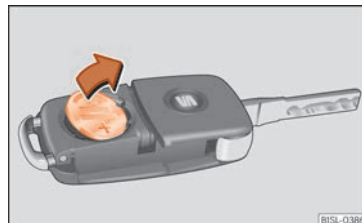

Fig. 88 Vehicle key: remove the battery.
- Extract the battery from the compartment using a suitable thin object » **Fig. 88**.
- Place the new battery in the compartment as shown » **Fig. 88**, pressing in the opposite direction to that shown by the arrow » ❷.